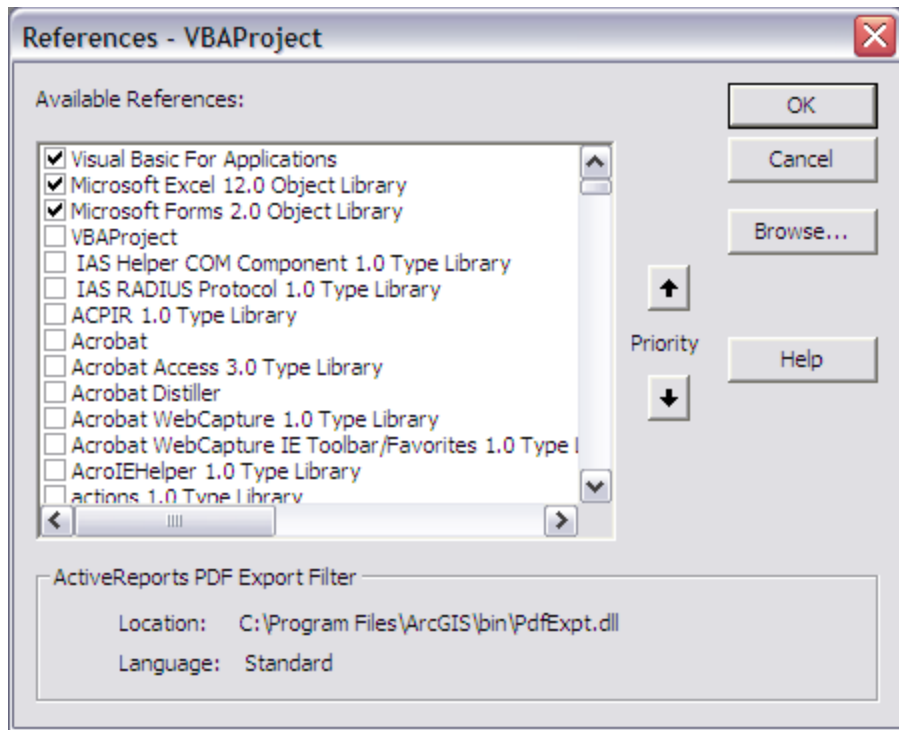

Figure D.3. The three references that are needed.
- c. Check if the libraries that are shown in figure D.3 are selected. If not, scroll down through the list and select the three libraries shown in the figure.